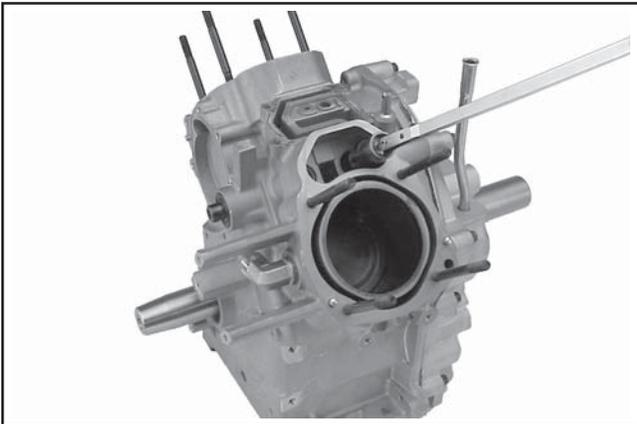

Figure 9-53. Removing Lifters.
5. Remove the hydraulic lifters using a hydraulic lifter removing tool (**do not use a magnet**). Mark them similar to the push rods (intake or exhaust and cylinder 1 or 2). Hydraulic lifters should always be reinstalled in their original location. See Figure 9-53.